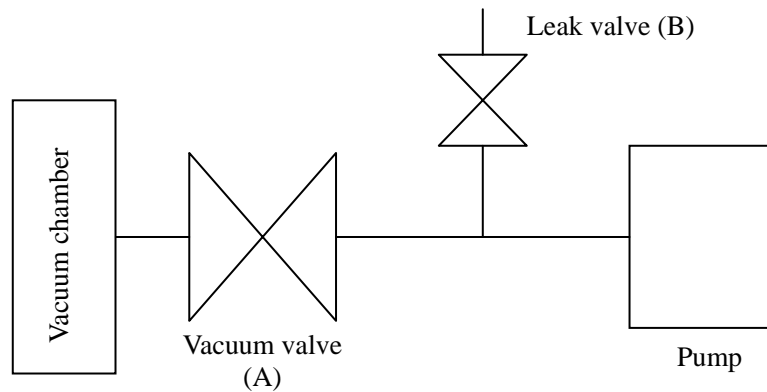

Fig. 4 Basic piping diagram to the vacuum chamber
- (2) Mount vacuum valve (A) and leak valve (B) between the vacuum chamber and pump as shown in Fig. 4.
- ① In the process of manufacturing semiconductors, pump oil may deteriorate over a very short period of time. It is recommended that the pump oil should be replaced within 10 days after starting use of the pump, and the replacement frequency of the pump oil should be decided based on the contamination level of the pump oil.
- ② If the pump evacuate a lot of moisture, replace the oil frequently. If the pump is used with gas which contains a lot of moisture, water absorption expands the vanes of the pump, the lubricity of the pump oil deteriorates and corrosion of the pump's components advance, causing the pump to malfunction.
- ③ If chemicals including acid has been evacuated, the pump may become rusty while it is not being operated (i.e. overnight), making operation impossible. If such chemicals are evacuated, replace the pump oil immediately.
- ④ Solvents which deteriorate the lubricity of the pump oil will cause scoring, etc. If such a solvent is evacuated, replace the oil.
- ⑤ If operation is performed continuously at a high evacuation pressure of 10 kPa or more, a large amount of pump oil is consumed, causing a shortage of oil and insufficient lubrication of the pump. If such a condition continues, components will rapidly wear and become scored. Avoid continuous operation at a high evacuation pressure as much as possible and, without fail, add pump oil.
- ⑥ Do not block the flow of air to the motor fan as the temperature of the motor and pump will increase.
To start operation, close leak valve (B), open vacuum valve (A) to the inlet port, and turn on the power switch. Then the pump starts to exhaust (see Fig. 4).
To stop operation, close vacuum valve (A), open leak valve (B) quickly, and turn the power switch off (see Fig. 4).